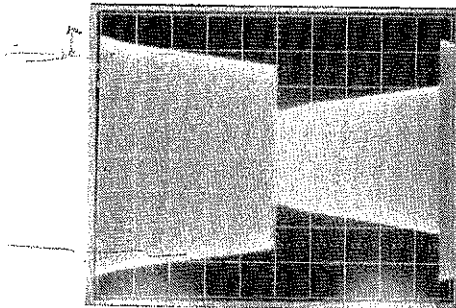
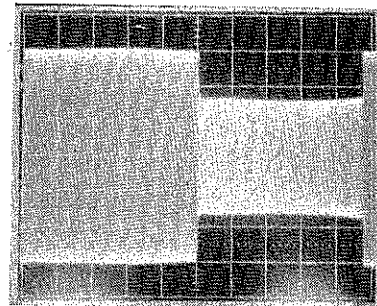

Fig. 4-2: Low Frequency Square Wave Without Tilt Correction
Fig. 4-3: Low Frequency Square Wave With Optimum Tilt Correction
- f) Turn on the carrier, and advance the OPTIMOD-AM OUTPUT ATTEN control until approximately 50% modulation is observed. Adjust the scope so that it is synchronized to the audio generator. Most transmitters will produce an RF envelope resembling Fig. 4-2. Now adjust the LF BREAKPOINT trimmer control clockwise until the squarewave is as flat as possible. Fig. 4-3 shows a successful adjustment.